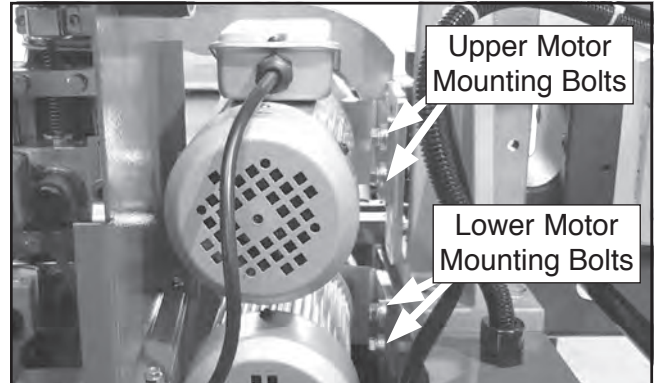

Figure 89. Buffing wheel adjustment bolt locations.
3. Open rear access cover, then loosen (2) upper buffing motor mounting bolts shown in **Figure 89**.